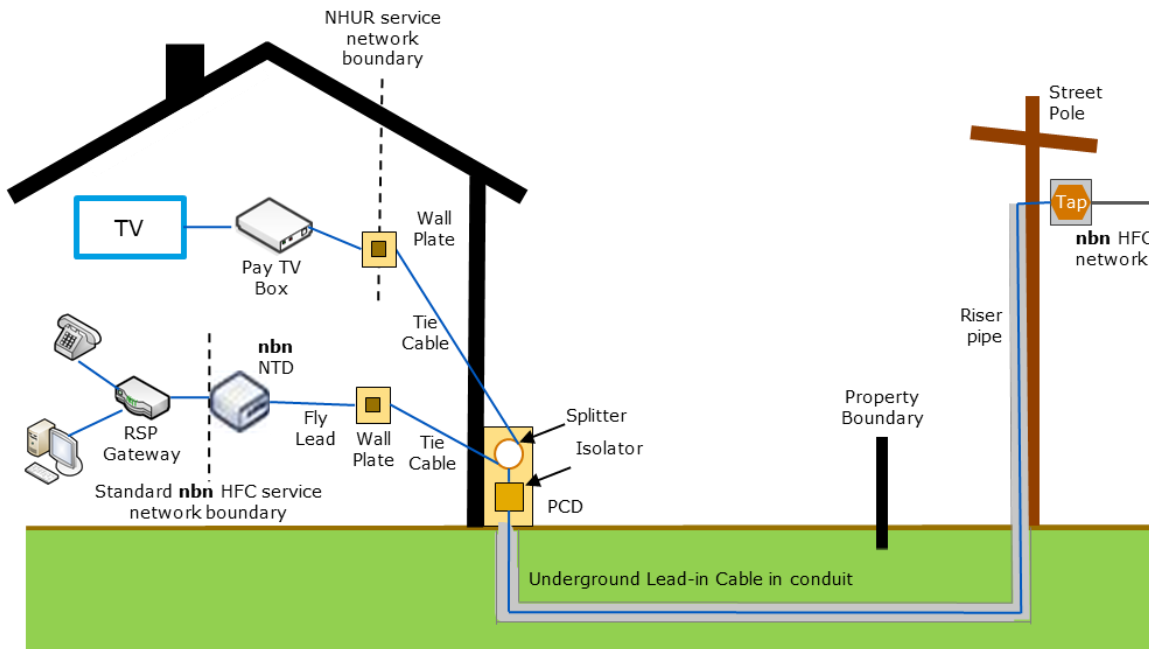

Figure 5 SDU nbn HFC installation – aerial TAP with underground lead-in cable
- Underground lead-in as shown in Figure 5
Figure 5 displays the underground lead-in cable in conduit connected to the aerial TAP on street pole infrastructure via a riser pipe.